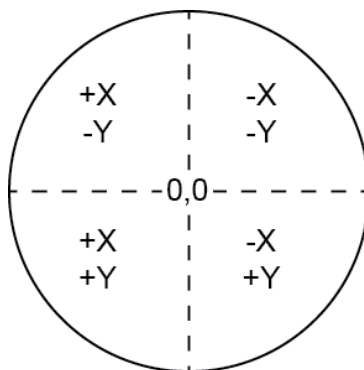

Figure EDS2. Stage X-Y coordinates
- e. **Note:** If number of fields is hand entered, check that LOWER RIGHT coordinates are correct. See Figure EDS2 or EDS3 below.